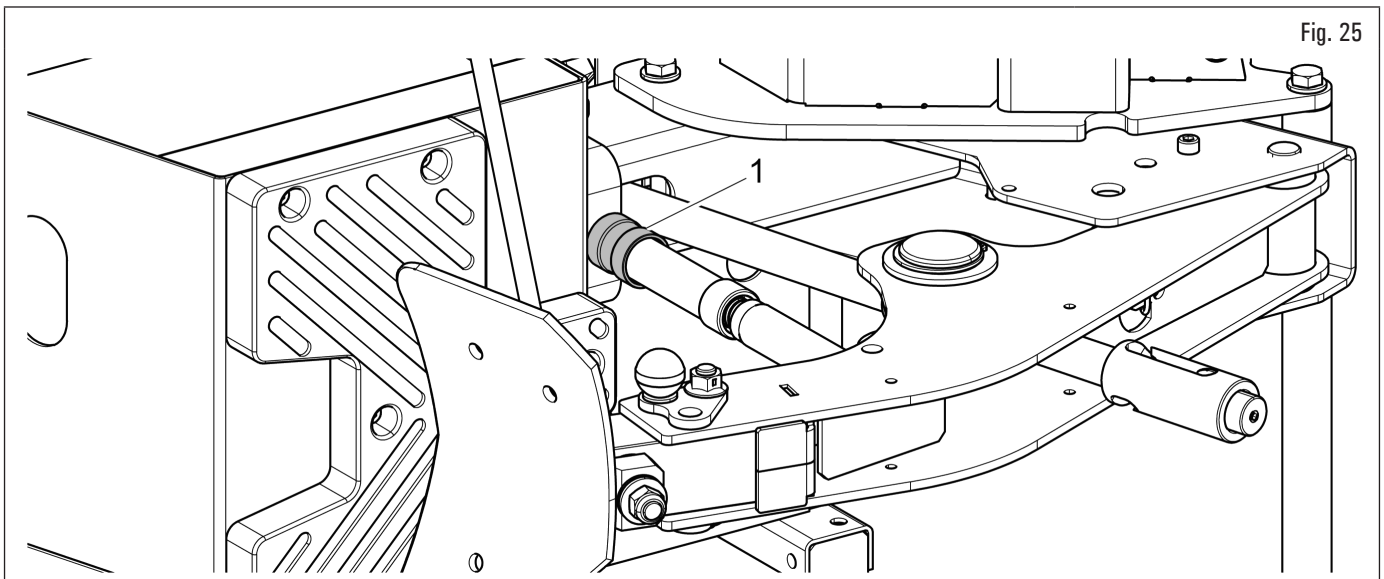

Fig. 25
2. adjust the travel of the bead breaker stroke limiter by acting on its adjustment ring nut (Fig. 25 ref. 1), so that the shovel can penetrate beyond the edge of the rim for a height equal to the height of a wedge of the bead press extension;